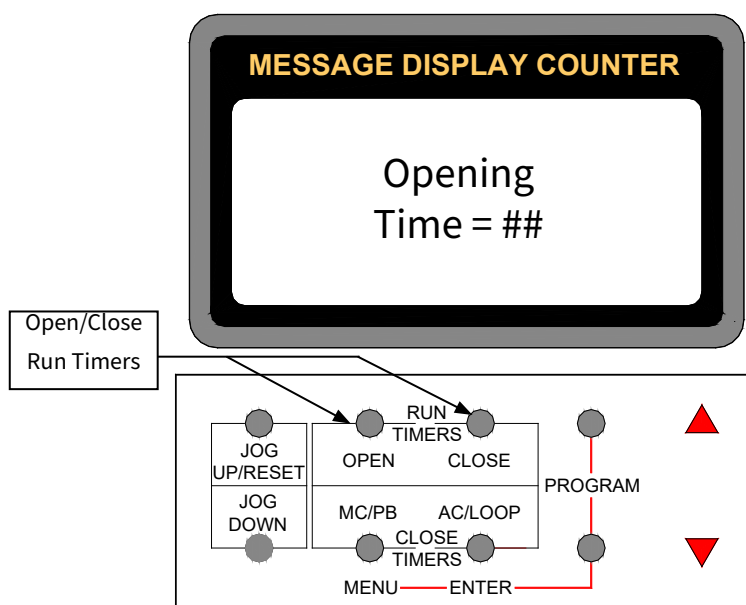

Figure 34: RUN TIMERS Buttons
- Press and release the open run timer button. Opening_time=## displays in the lcd. See figure 34.